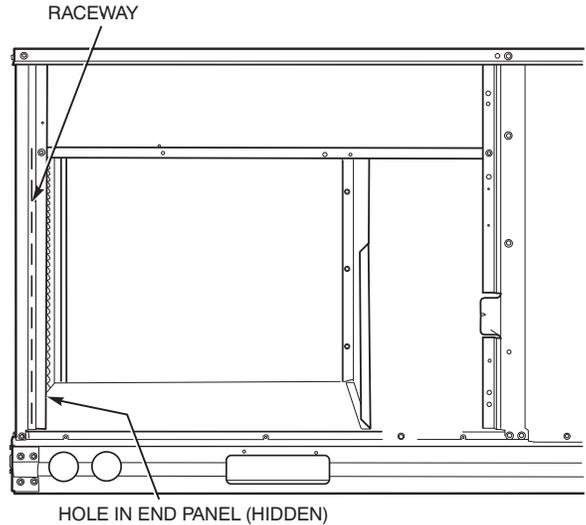

Fig. 36 — Field Control Wiring Raceway
Pass the thermostat control wires through the hole provided in the corner post; then feed the wires through the raceway built into the corner post to the control box. Pull the wires over to the terminal strip on the upper-left corner of the Controls Connection Board. See Fig. 36.
2. Feed wires through the raceway built into the corner post (see Fig. 36) to the 24v barrier located on the left side of the control box. The raceway provides the UL-required clearance between high-voltage and low-voltage wiring.
2. Feed wires through the raceway built into the corner post (see Fig. 36) to the 24-v barrier located on the left side of the control box. The raceway provides the UL-required clearance between high-voltage and low-voltage wiring.